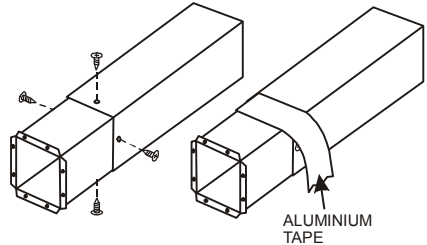

Figure 53 – Flue Duct Extension
12. If using flue duct extension, adjust to the appropriate length, and secure as detailed in **Figure 53**.
14. If using flue duct extension, adjust to the appropriate length, and secure as detailed in **Figure 53**.
18. If using flue duct extension, adjust to the appropriate length, and secure as detailed in **Figure 53**.